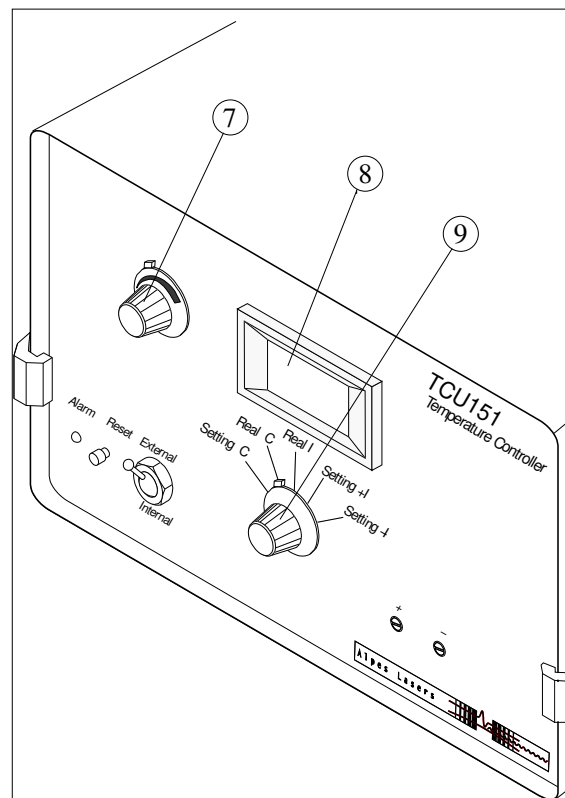

Fig.40: TCU151 front panel
- [10] Adjust **B13** (3) to **0.000** with **P3** (4)
- [11] Set the temperature with the **Set Temperature** potentiometer (Fig.40 (7)) to +5 °C
- [12] Set the temperature with the **Set Temperature** potentiometer (Fig.40 (7)) to -5 °C